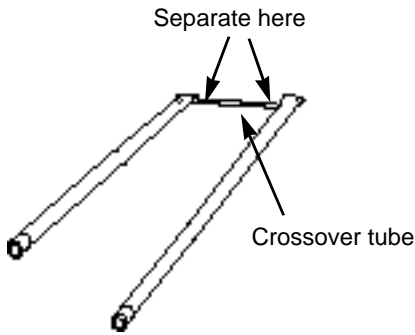

Figure 15
11. Lift and twist the burner assembly slightly to separate the crossover tube from the burners. Remove the burners from the cooking box. Figure 15.